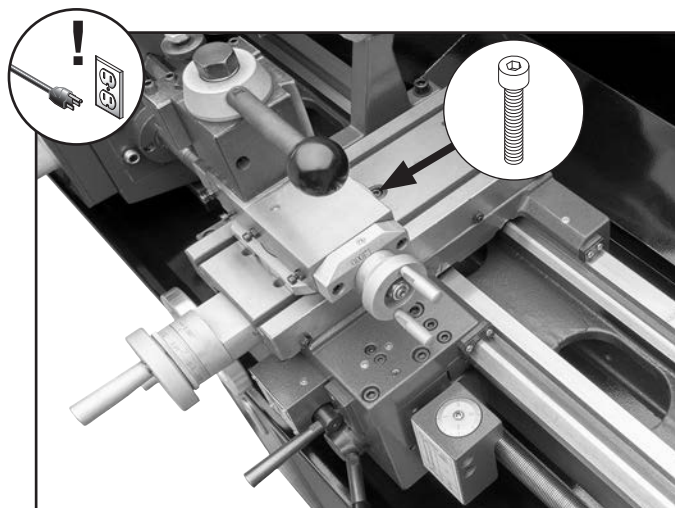

Figure 121. Location of cross slide leadscrew nut cap screw.
2. Adjust cap screw shown in **Figure 121** in small increments. Test after each adjustment by rotating handwheel back and forth until backlash amount is acceptable.